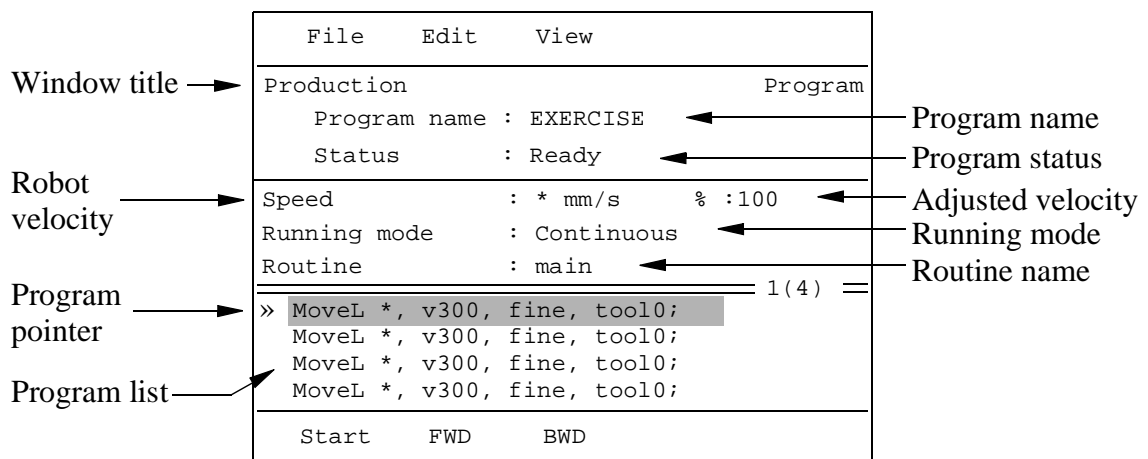

Figure 42 The Production window in auto mode.
2. Press **OK**. You have now changed to automatic mode and the **Production** window appears on the display (see Figure 42).